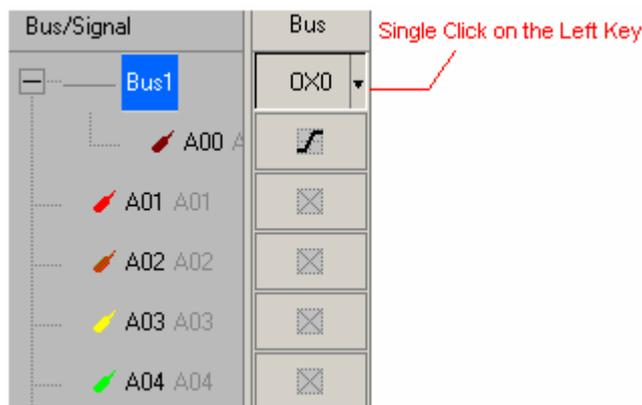

Fig 4-34 – Bus Trigger Column
**Tip:** Single click on the trigger column of the Bus as shown in Fig 4-34.